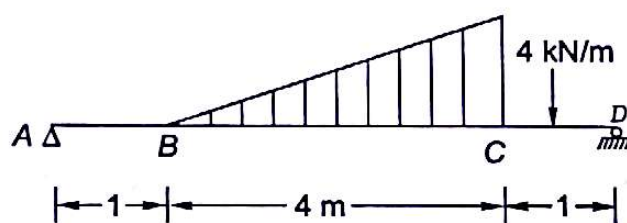

Fig. 2.27
2.4 A beam ABCD, 6 m long carries a linearly variable load as shown in Fig. 2.27. What is the equivalent load and its point of applications from A?